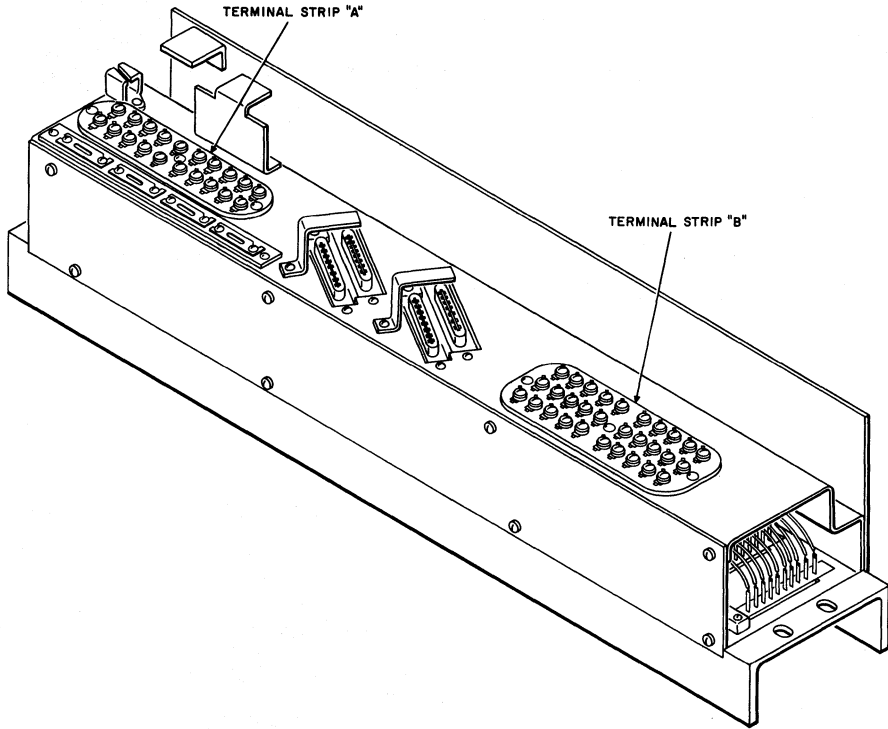
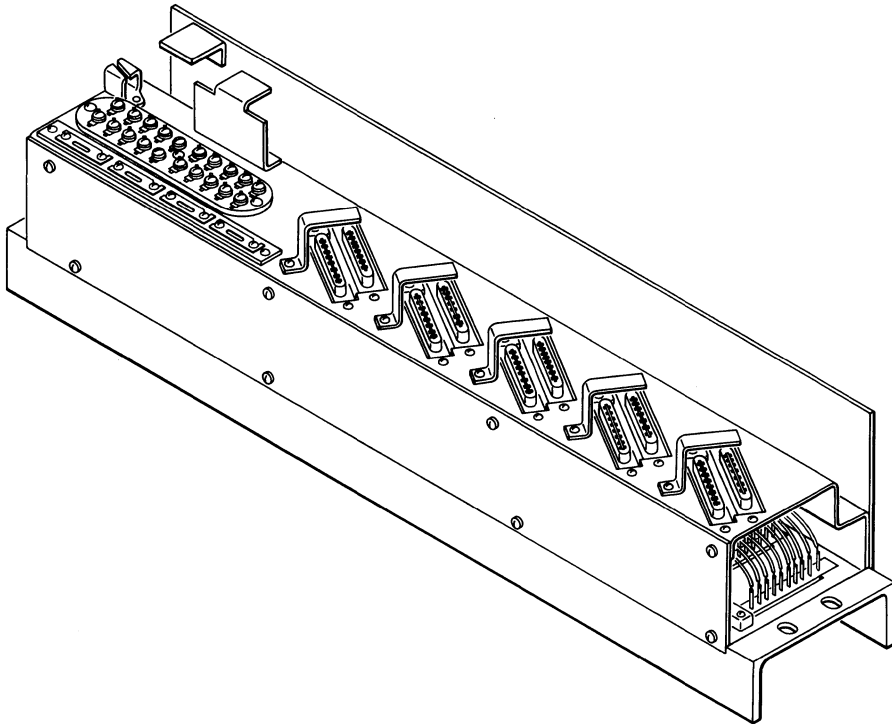

Fig. 1—597-Type Panel
Fig. 2—598-Type Panel
2.01 **Purpose:** The 597-type (Fig. 1) and 598-type (Fig. 2) panels provide auxiliary mounting facilities for 20- and 40-pin (4-inch) 400-series KTUs, respectively.
Panel, 597B (Fig. 1)
Panel, 598B (Fig. 2)